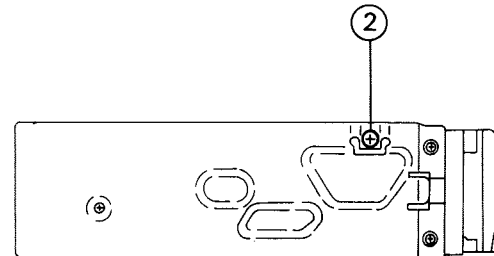

Fig. 4-2
2. After turning the body over to the right side, remove the one screw (2) retaining the top cover (See Fig. 4-2).